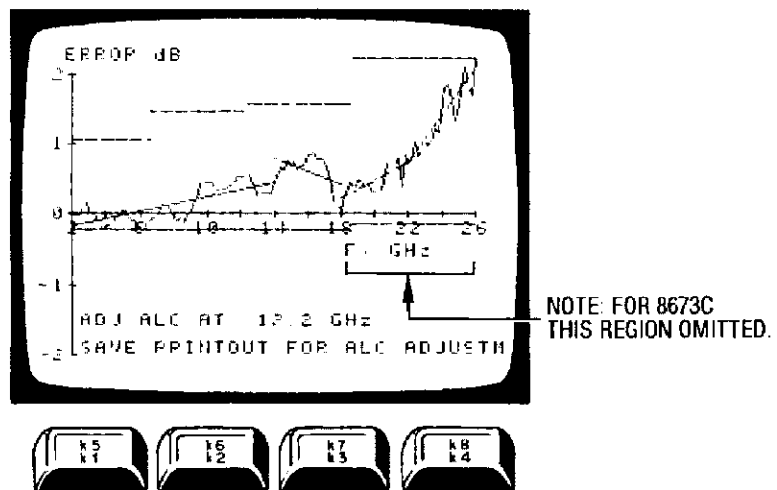

Figure 5-38. Typical Flatness Plot Before Adjustment
- A copy of the flatness plot is printed. See figure 5-38.